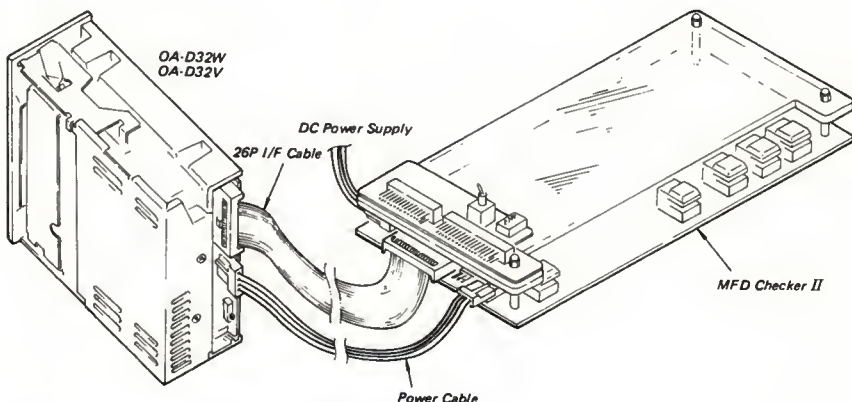

Fig. 2-1 Drawing of Connection Between Disk Drive and MFD Checker II
(2) Micro Floppydisk Drive Connection (Refer to Fig. 2-1)
(3) MFD Checker II function switches
- 1) Referring to Fig. 2-1 (Micro Floppydisk Drive Connection), connect the drive to MFD Checker II.